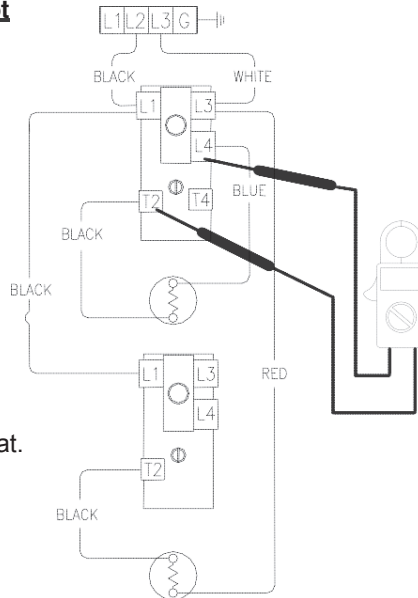

Figure 35
5. Check across terminals L4 and T2 of upper thermostat (see Figure 35).